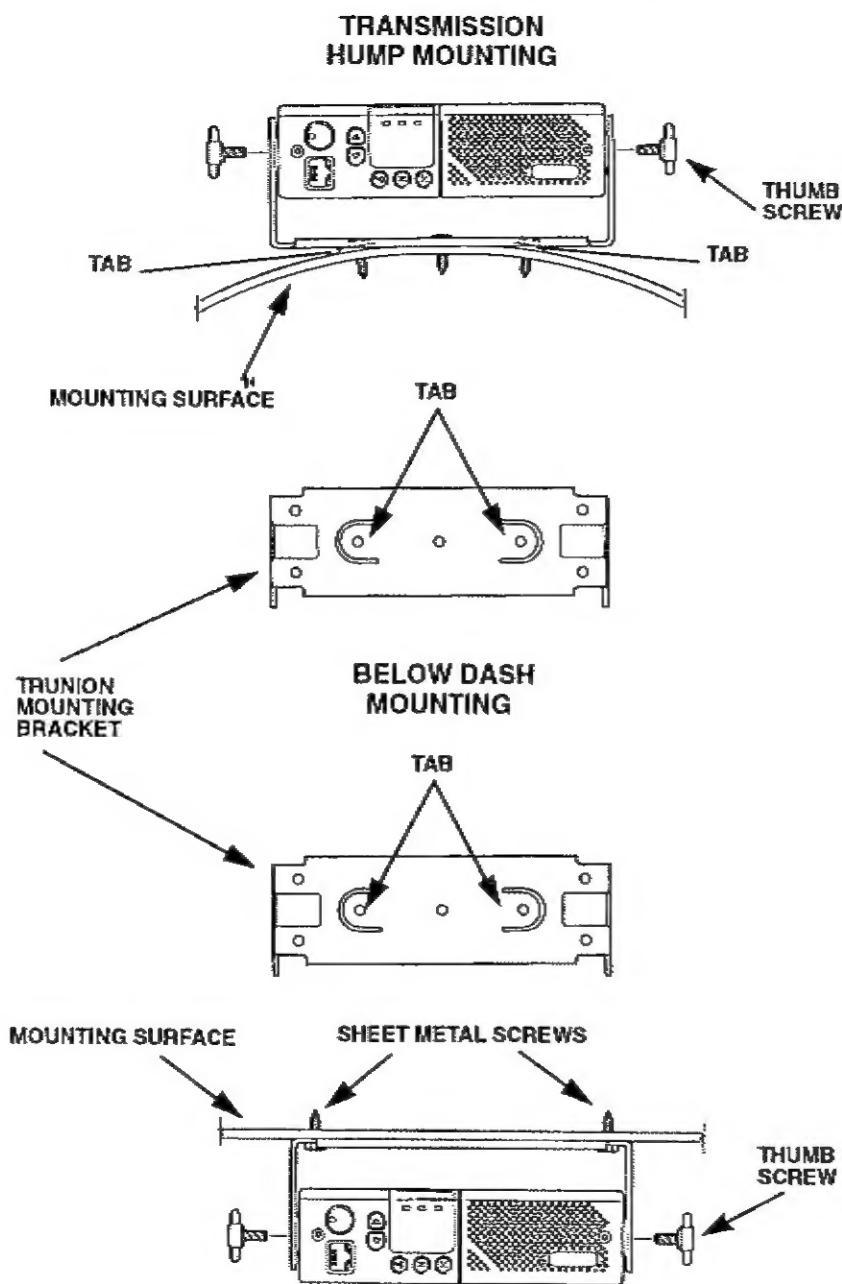

Figure 4. Trunnion Mount for Radio
Non-locking Trunnion Installation (See Figure 4)
1. Select the location to mount your radio either on the Transmission Hump or Under the Dash (see Figure 4).